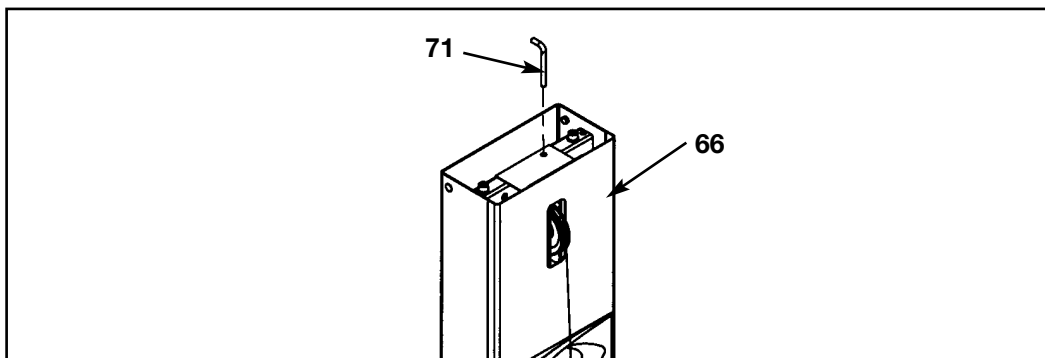

Figure 22
- J.** Secure back cover (#66) using weight selector pin (#71). See Figure 22.